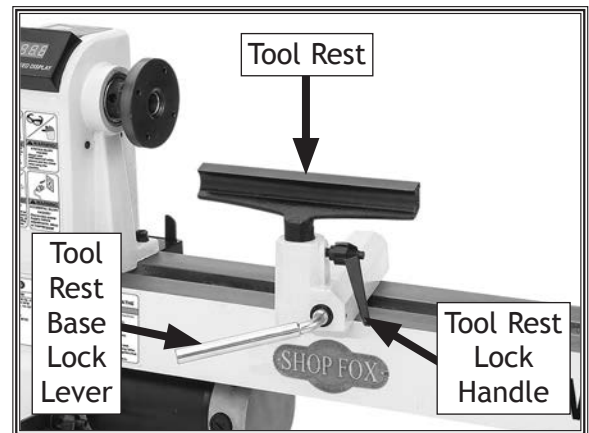

Figure 14. Tool rest controls.
1. Loosen tool rest base lock lever and move tool rest assembly to desired position on lathe bed, as shown in Figure 14.
3. Loosen tool rest lock handle (see Figure 14).